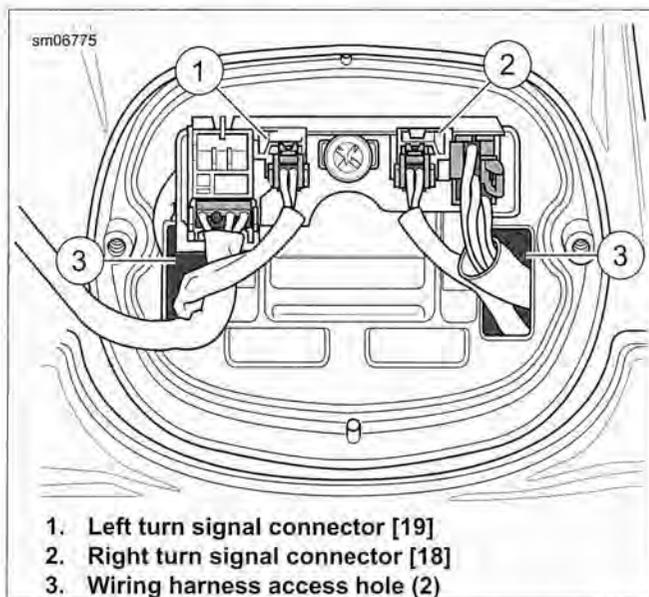

Figure 6-90. Turn Signal Connectors: All Models Except XL 883N, XL 1200N/X/C/CP
3. See Figure 6-90. Remove left and right turn signal connectors (1, 2). Pull turn signal wiring harnesses through harness access holes in tail lamp base (3).